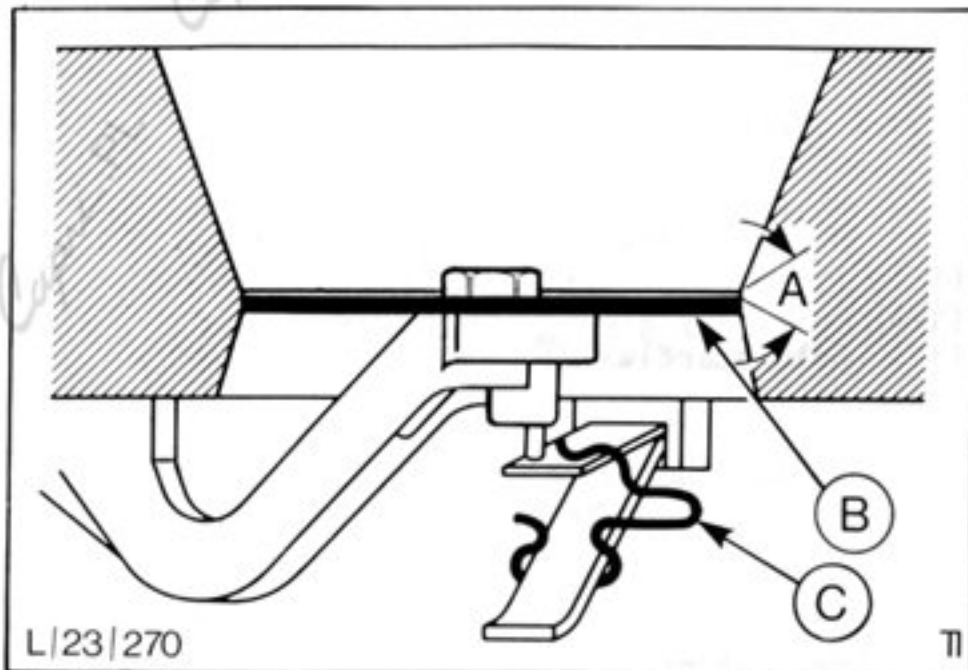

Fig.51. Air sensor plate.
9. Check sensor plate rest position. With plate in rest position upper edge should be level with start of cone or up to a maximum of 0,5 mm (0,02 in) below this point. Refer Fig.51.